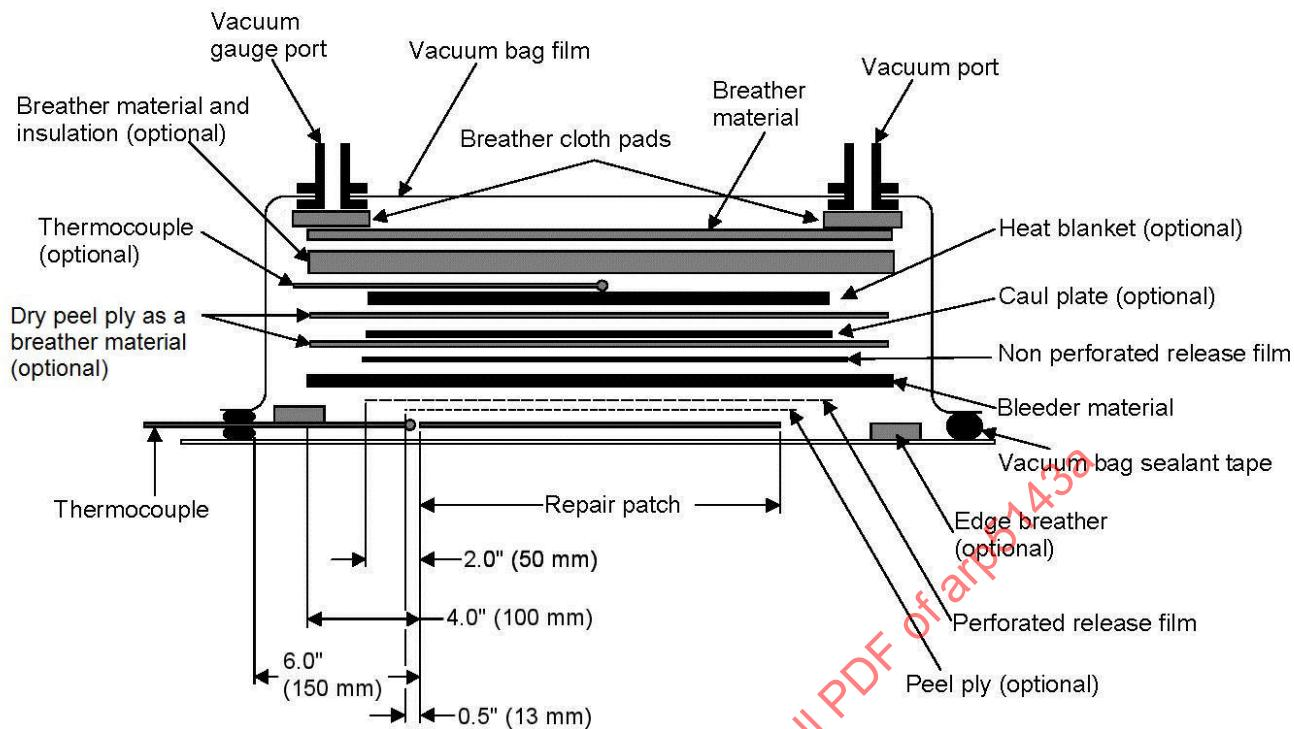

Figure 9 - Method 1 - vertical bleed cure
This section also describes proper installation techniques, function and potential problems of vacuum bag equipment. It is assumed that the repair materials have already been applied. It is recommended that this section be referred to when following the instructions for proper installation described in the methods of vacuum bagging in 8.1 to 8.7 and Figures 9 through 14.
8.1 Method 1 - Vertical Bleed Cure with or without the use of a heat blanket (Figure 9)
- d. Apply vacuum bag sealant tape to the periphery of the repair area, approximately 6 inches (150 mm) beyond the largest repair ply. Use Figure 9 as a guide to determine the location of the vacuum bag sealant tape with respect to the materials inside the vacuum bag (heat blankets, edge breather, etc., if used) for each repair. Do not place the vacuum bag sealant tape on the flashbreaker tape, as this can cause leaks. Do not remove the protective paper at this time.